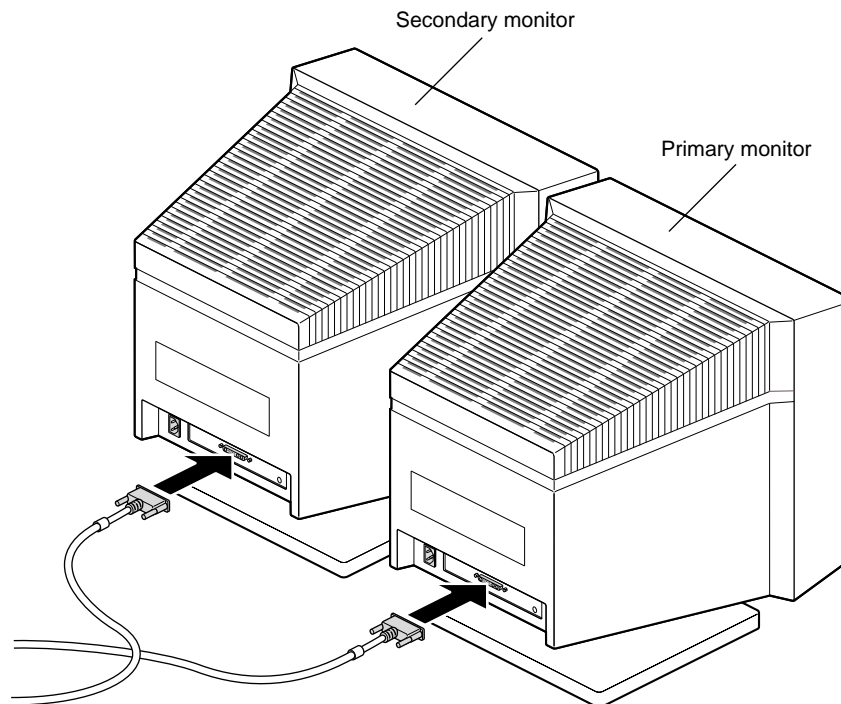

Figure 2-2 Placing the Monitors Side by Side
2. Connect one end of each monitor signal cable to the connector on the back of each monitor, as shown in Figure 2-2. Connect and tighten the thumbscrews on both sides of the connector.